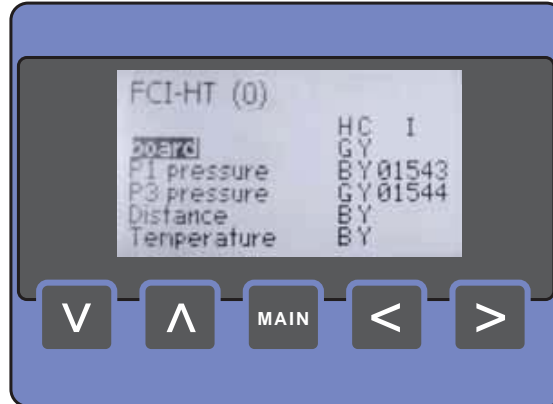

FIGURE 4-14
- The [function list] screen (see FIGURE 4-14) displays all configurable entities of a function.